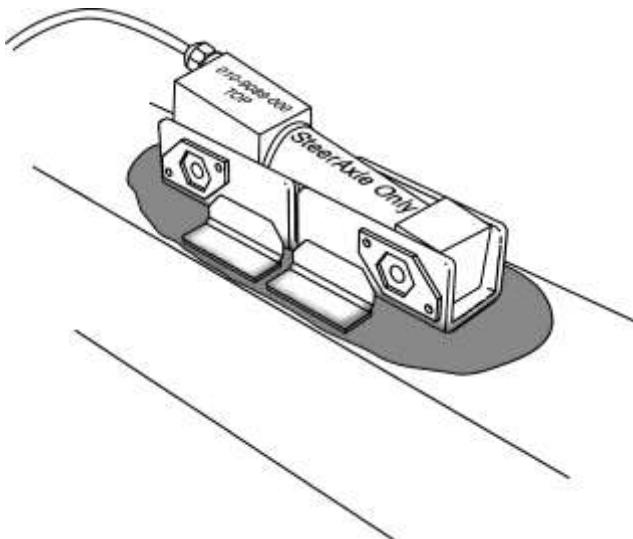

Fig. 6: Inserting the Sensor into the Bracket
4. Insert the steer axle sensor with its cable extending toward the side of the vehicle where the sensor extension cable has been routed to the firewall. Make sure the word "TOP" faces up (Fig. 6).